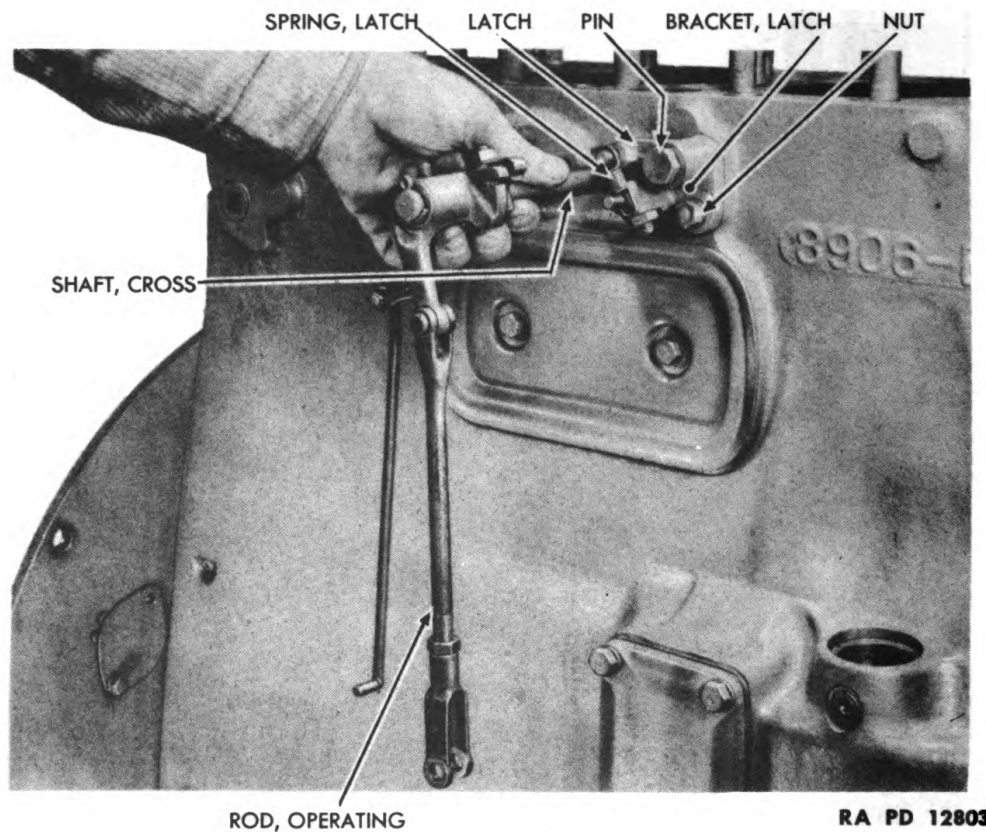

Figure 35—Cross Shaft Removal
(3) REMOVE CROSS SHAFT (fig. 35). From right side of crankcase, pull out cross shaft with operating rod and connecting parts attached.
(4) REMOVE LATCH SPRING (fig. 35).
(5) REMOVE THE LATCH (fig. 35).
(6) REMOVE LATCH BRACKET (fig. 35).